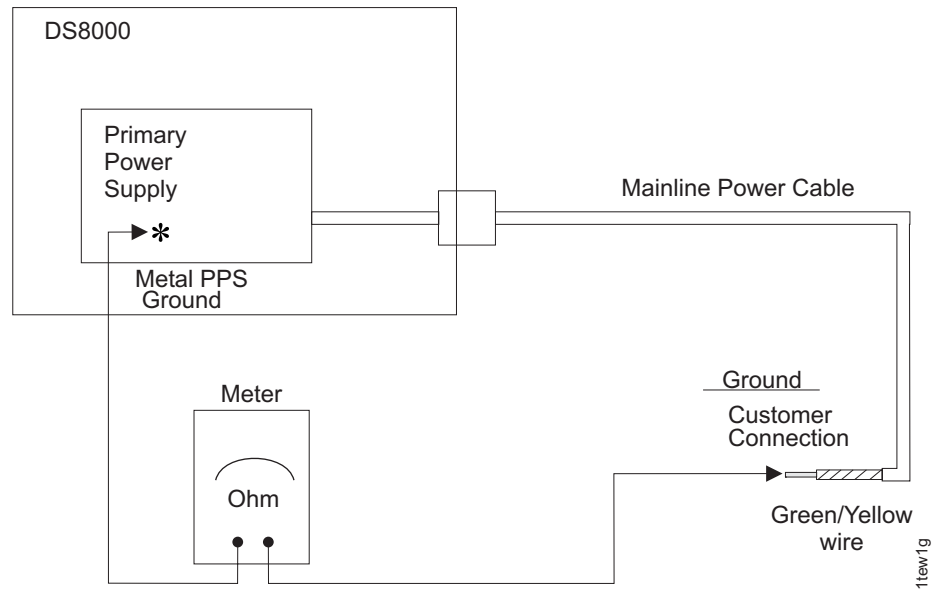

Figure 37. Prepare multimeter to measure ohm resistance
6. Prepare the multimeter to measure 0.1 ohm or less resistance. Place one lead of the multimeter on the green and yellow wire at the customer end of each mainline power cable. Place the other lead on the conductive metal of each PPS enclosure. Refer to Figure 37 on page 41.